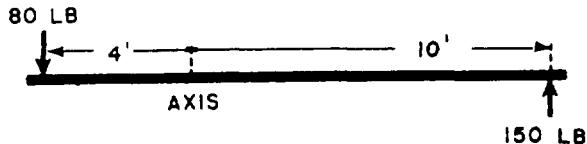

Figure 1Q
- 1-53. The result of forces acting as shown in figure 1Q would be a torque of